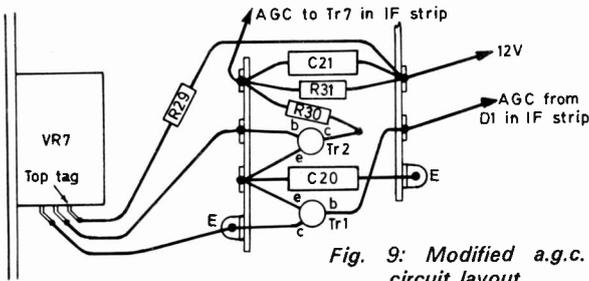

Fig. 9: Modified a.g.c. circuit layout.
i.f. strip which in turn conducts less. Its collector voltage is thus negative-going, increasing the bias applied to and the forward current through the gain-controlled transistors Tr1 and Tr2. C30 in the i.f. strip charges to the sync-tip amplitude. C20 and C21 in the a.g.c. circuit are hum and anti-hunt filter capacitors. Fig. 9 shows the new physical layout of the a.g.c. components.